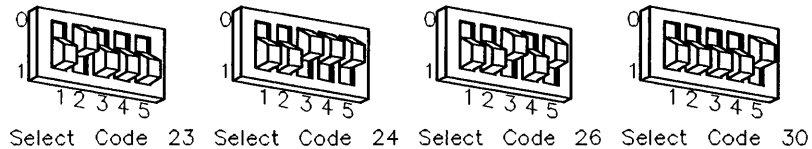

Figure 10-6.
- Set these switches to one of the four select codes given in Figure 10-6, unless you have used them elsewhere. Refer to the installation note that came with the interface if you need additional switch settings.